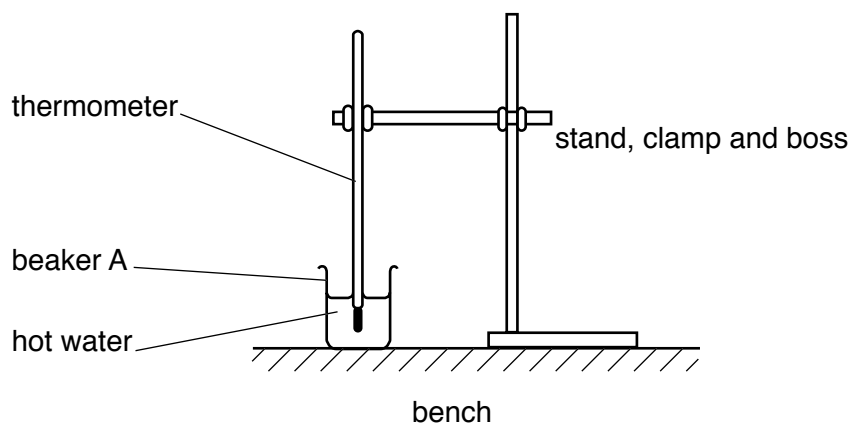

Fig. 2.1
- 3 The thermometer should be held in the stand, clamp and boss so that candidates can easily place it in beaker A as shown in Fig. 2.1.